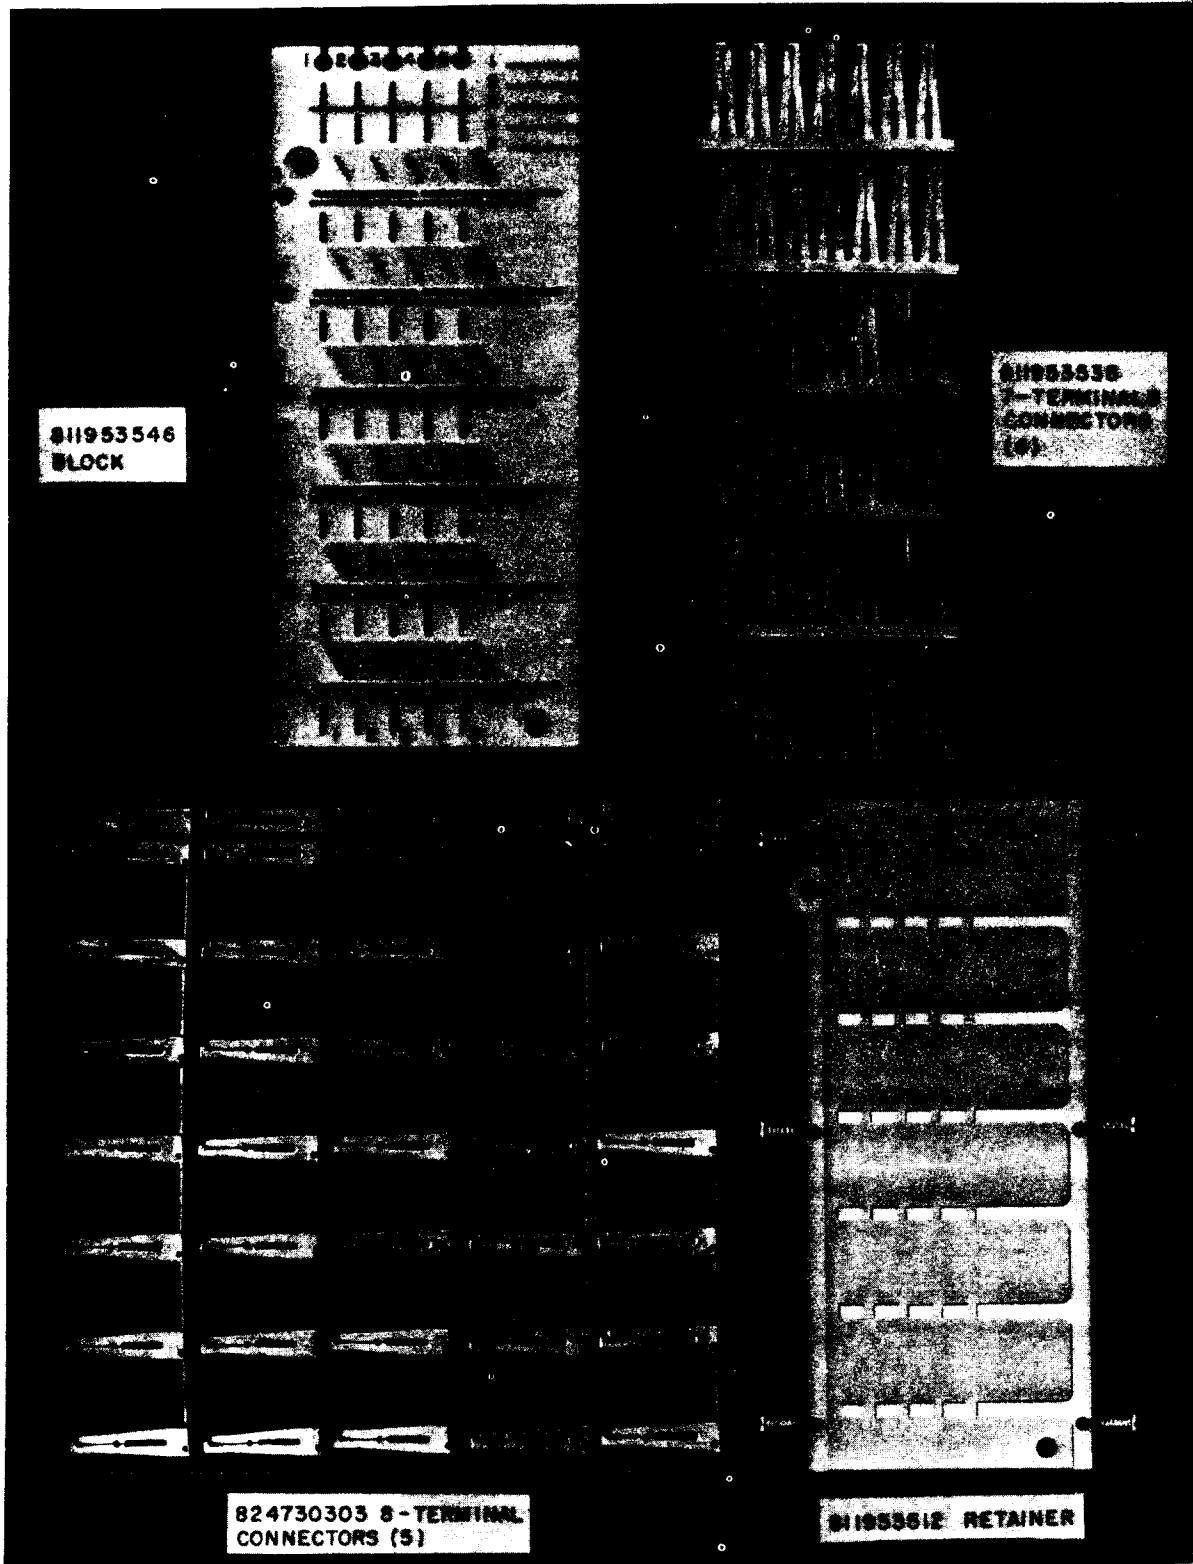

Fig. 2—1A1 Matrix Block—Components
**2.03** The various components used in the assembly of a complete 1A1 Matrix Block are shown in Fig. 2. It will be noted that the cross-grid or MATRIX array consists of five vertically positioned rows of a 8-clip terminal (8-terminal connector). The uppermost clip is for the termination of connecting circuit leads. The bottom (end) clip serves as a multiplying point for extending the capacity of the matrix unit. Six rows of a 7-clip terminal (7-terminal connector) are positioned at right angles to these. The left-hand clip on each serves to terminate external circuit leads. The